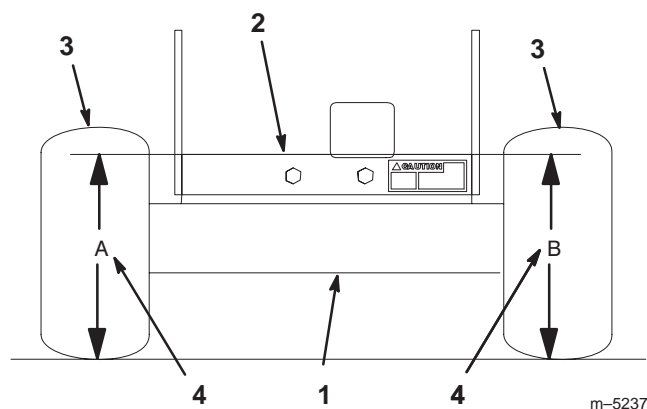

Figure 59
3. Measure engine deck height at location “A” (Fig. 59).
4. Measure engine deck height at location “B” (Fig. 59).